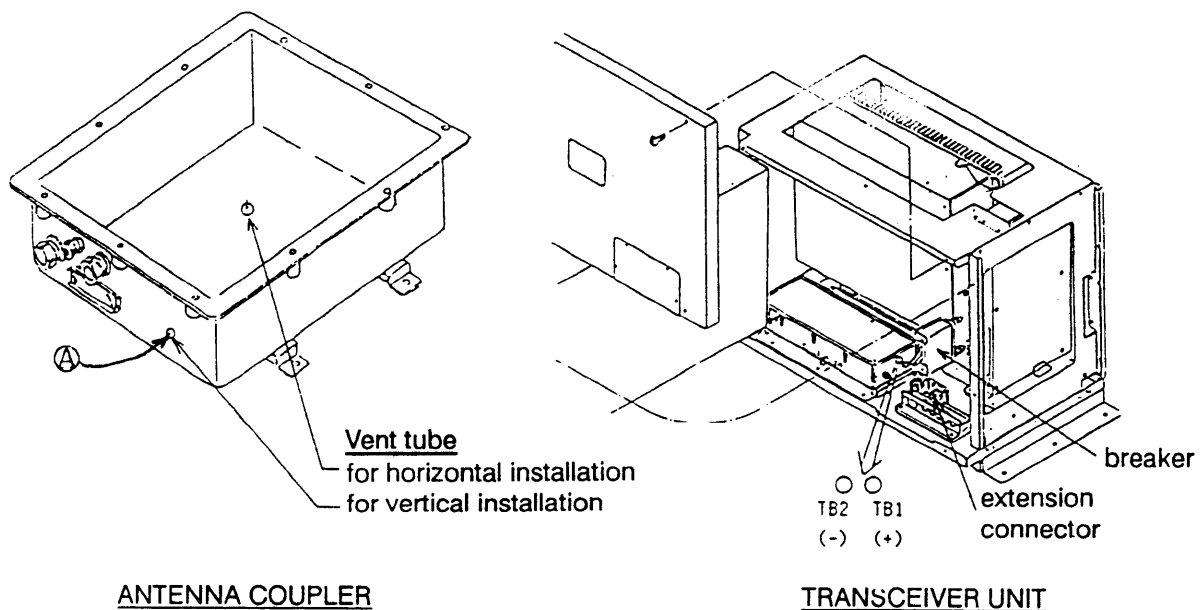

Fig. 2-1 Location of Parts in Antenna Coupler and Transceiver Unit
Antenna Coupler	1. Confirm that the antenna wire is firmly connected. 2. Confirm that the cover is firmly tightened. 3. Check for loosened coaxial cable. 4. Check for loosened ground connections. 5. Check the vent hole for foreign material. (A vent tube is mounted at position ④ in Fig. 2-1.)